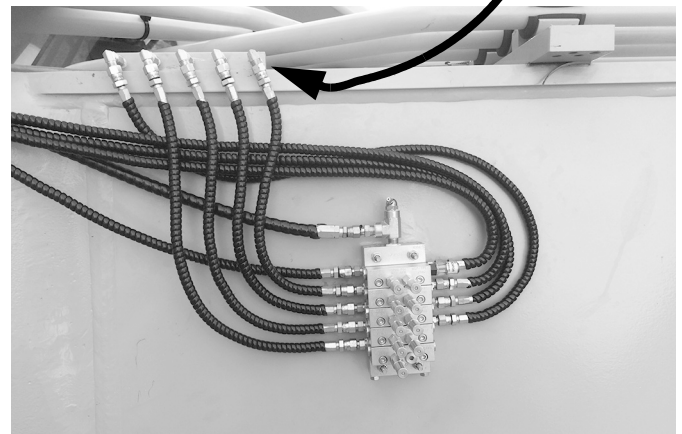

FIG. 14
The Boom and Swing Circle Valve is installed to the right rear side of the boom. It should be centered top to bottom and centered between the fitting block and hose mount on the excavator, see FIG. 14.
3. Install Boom and Swing Circle Valve to the equipment using nuts included in the kit (FIG. 14).